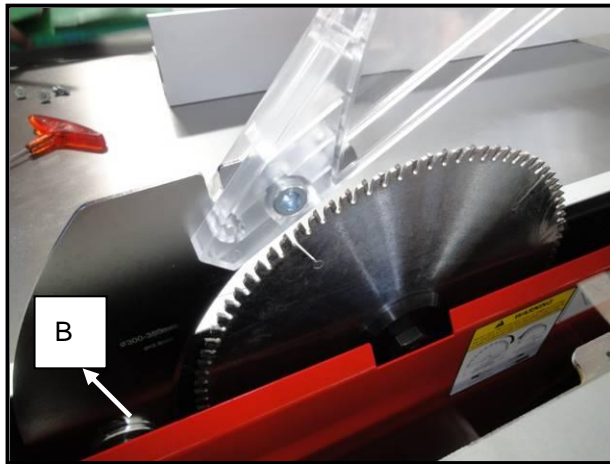

Figure 3-5.9
1. Fit the riving knife as Fig. 3-5.9 and tighten the screw **B**.